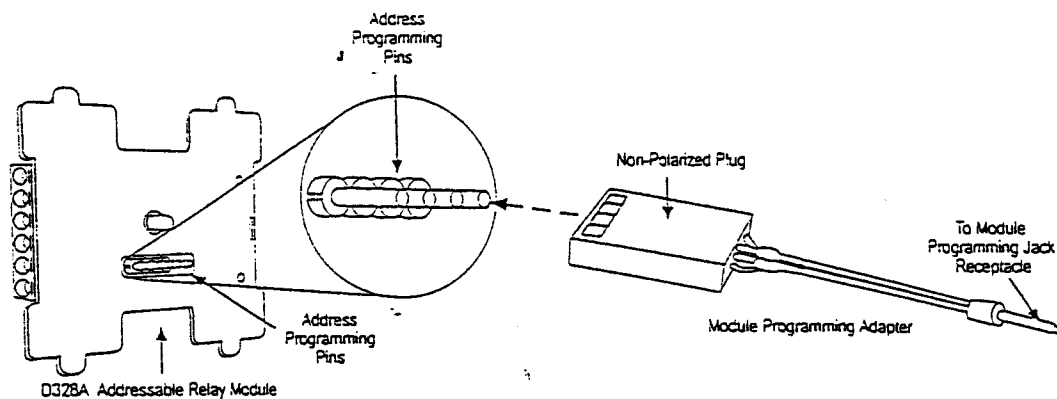

Figure 2: D328A Programming Connections
- To program an address on the D328A, insert the non-polarized plug on the Programming Adapter onto the address setting pins on the D328A module. Plug the remote programming jack on the Programming Adapter into the remote programming jack receptacle on the D5070 Analog Device Programmer (see Figure 2).